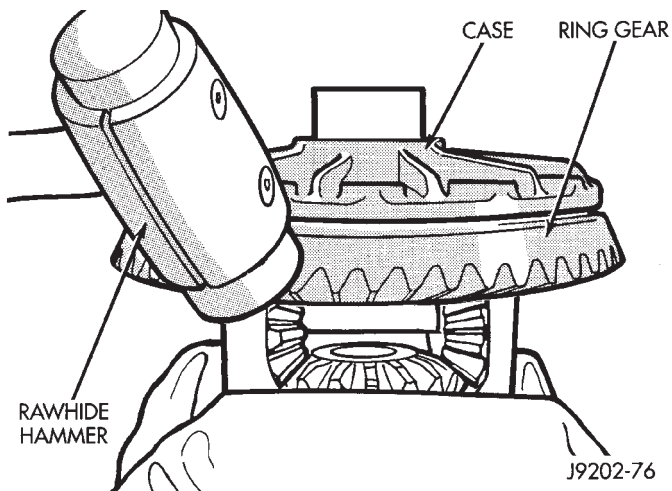

Fig. 22 Ring Gear Removal
- (1) Remove differential from axle housing.
- (2) Place differential case in a suitable vise with soft metal jaw protectors (Fig. 22).
- (3) Remove bolts holding ring gear to differential case.
- (4) Using a soft hammer, drive ring gear from differential case (Fig. 22).